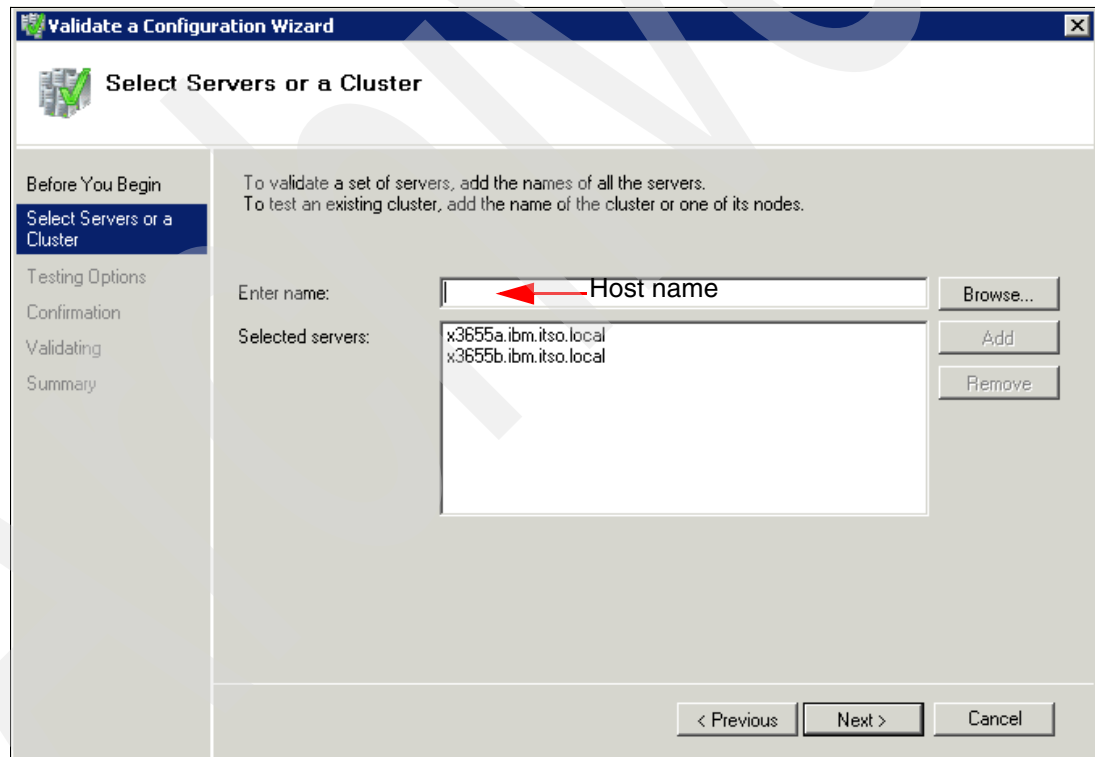

Figure 5-87 Validation - enter hosts
2. Enter the host names of both/all nodes of your configuration to be validated in this step (Figure 5-87). Enter each host name separately and click **Add**. After all hosts are in the list, click **Next**.
2. Subsequently, enter the cluster node’s host names similar to Figure 5-87 on page 293, and click **Next** when done.